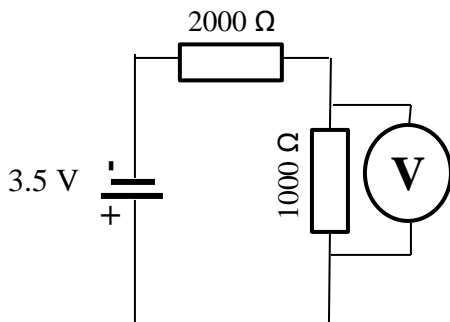

Figure 1. Schematic diagram of series circuit using DC power source.
3. Construct series circuit with 3.5 V battery, 1000 Ω resistor, & 2000 Ω resistor as shown in Figure 1. You will have to use high capacity resistors () in the circuit. (NOTE: The current flow will not be visible in the circuit.)